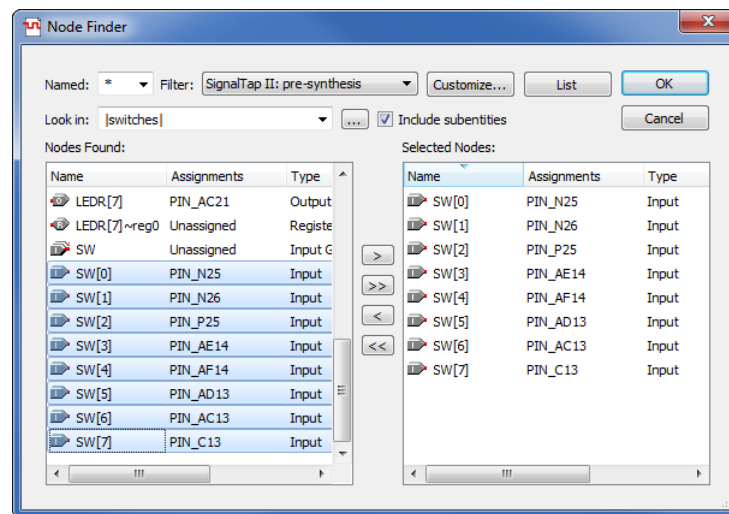

Figure 7. Adding nodes in the Node Finder window on a DE-series board.
3. We now need to add the nodes in the project that we wish to probe. In the Setup tab of the SignalTap II window, double-click in the area labeled Double-click to add nodes, bringing up the Node Finder window, as shown in Figure 7. For the Filter field, select SignalTap II: pre-synthesis, and for the Look in field select [switches]. Click List. This will now display all the nodes that can be probed in the project. Highlight SW[0] to SW[7], and then click the > button to add the switches to be probed. Then click OK.